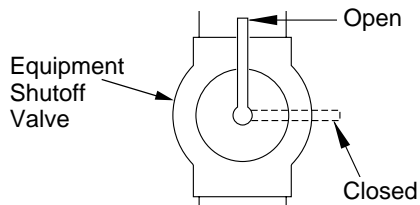

Figure 27 - Equipment Shutoff Valve
1. Open equipment shutoff valve (see Figure 27).